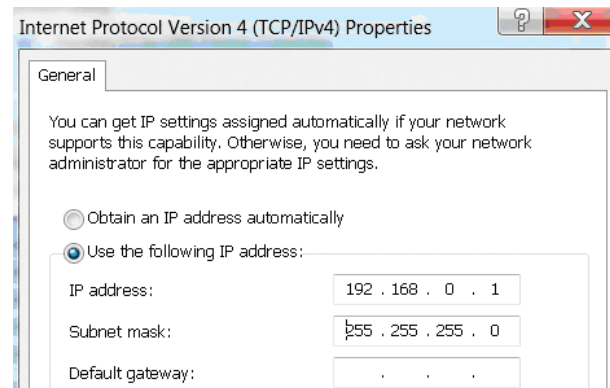

Figure 9-7
- b. If the IP was not automatically assigned, then configure the IP address as in Figure 9-7.